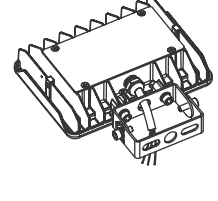

Fig. 2.3
4. Tighten the outer bracket with screws (Fig. 2.3).